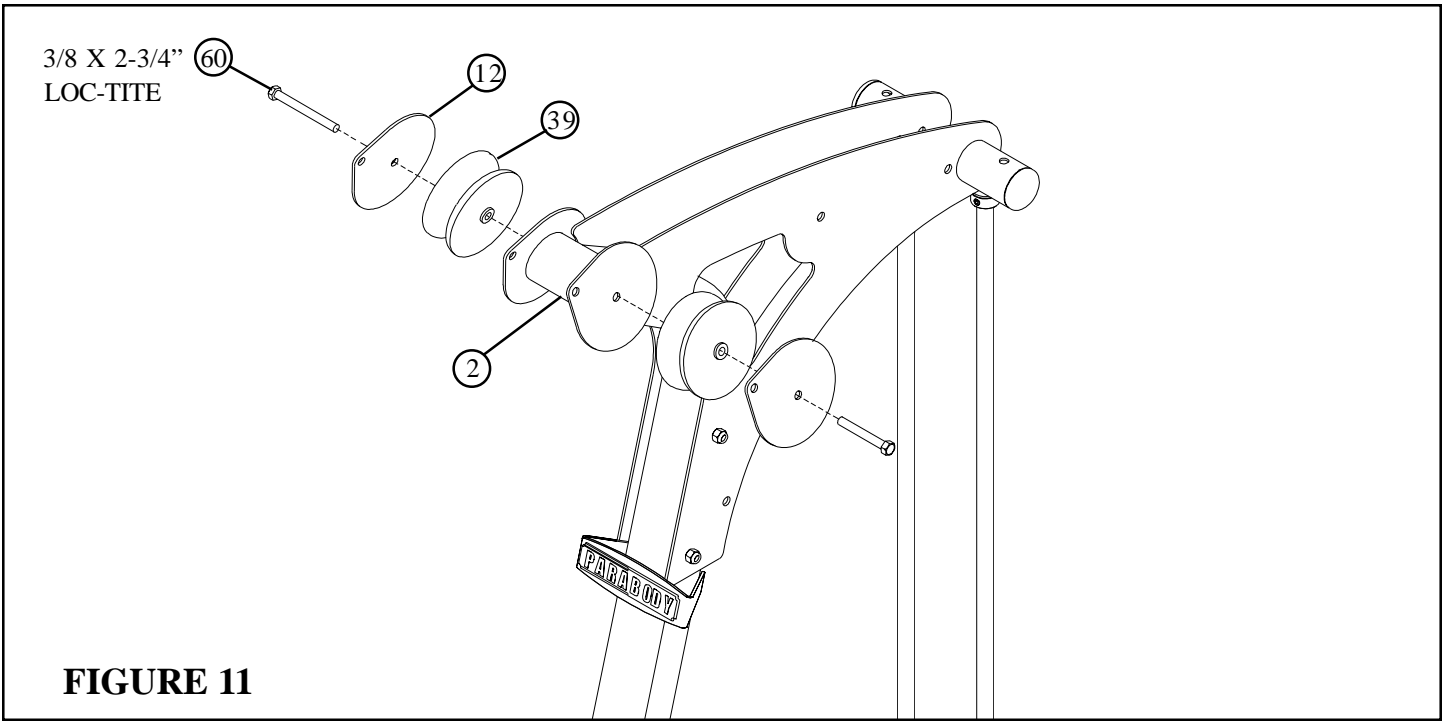

FIGURE 11
- Assemble two V-PULLEY PLATES (12) and two 4-1/2" V-GROOVE PULLEYS (39) to the UPRIGHT (2) using two 3/8 X 2-3/4" LOC-TITE BOLTS (60) . See FIGURE 11.